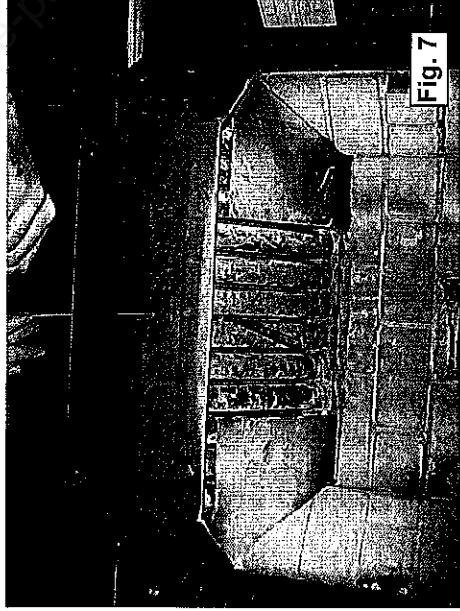

Fig. 7
- 5) With the scraper plate back to the bottom of scraper tubes, maneuver the straight wrench sideways and in-between the center tubes. Slide the straight wrench up towards the front of the heat exchange tubes and thread the new scraper rod into place (see figure 7).